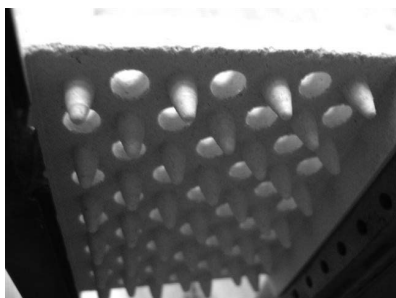

Figure 3. Ceramic Radiants
Ceramic radiants, Figure 2, are located on each side of the burners. Ceramic end pieces are installed at both ends of each burner assembly. Five (5) ceramic radiants are installed on each side of each burner with the pointed side facing down and the holes facing up. Figure 3